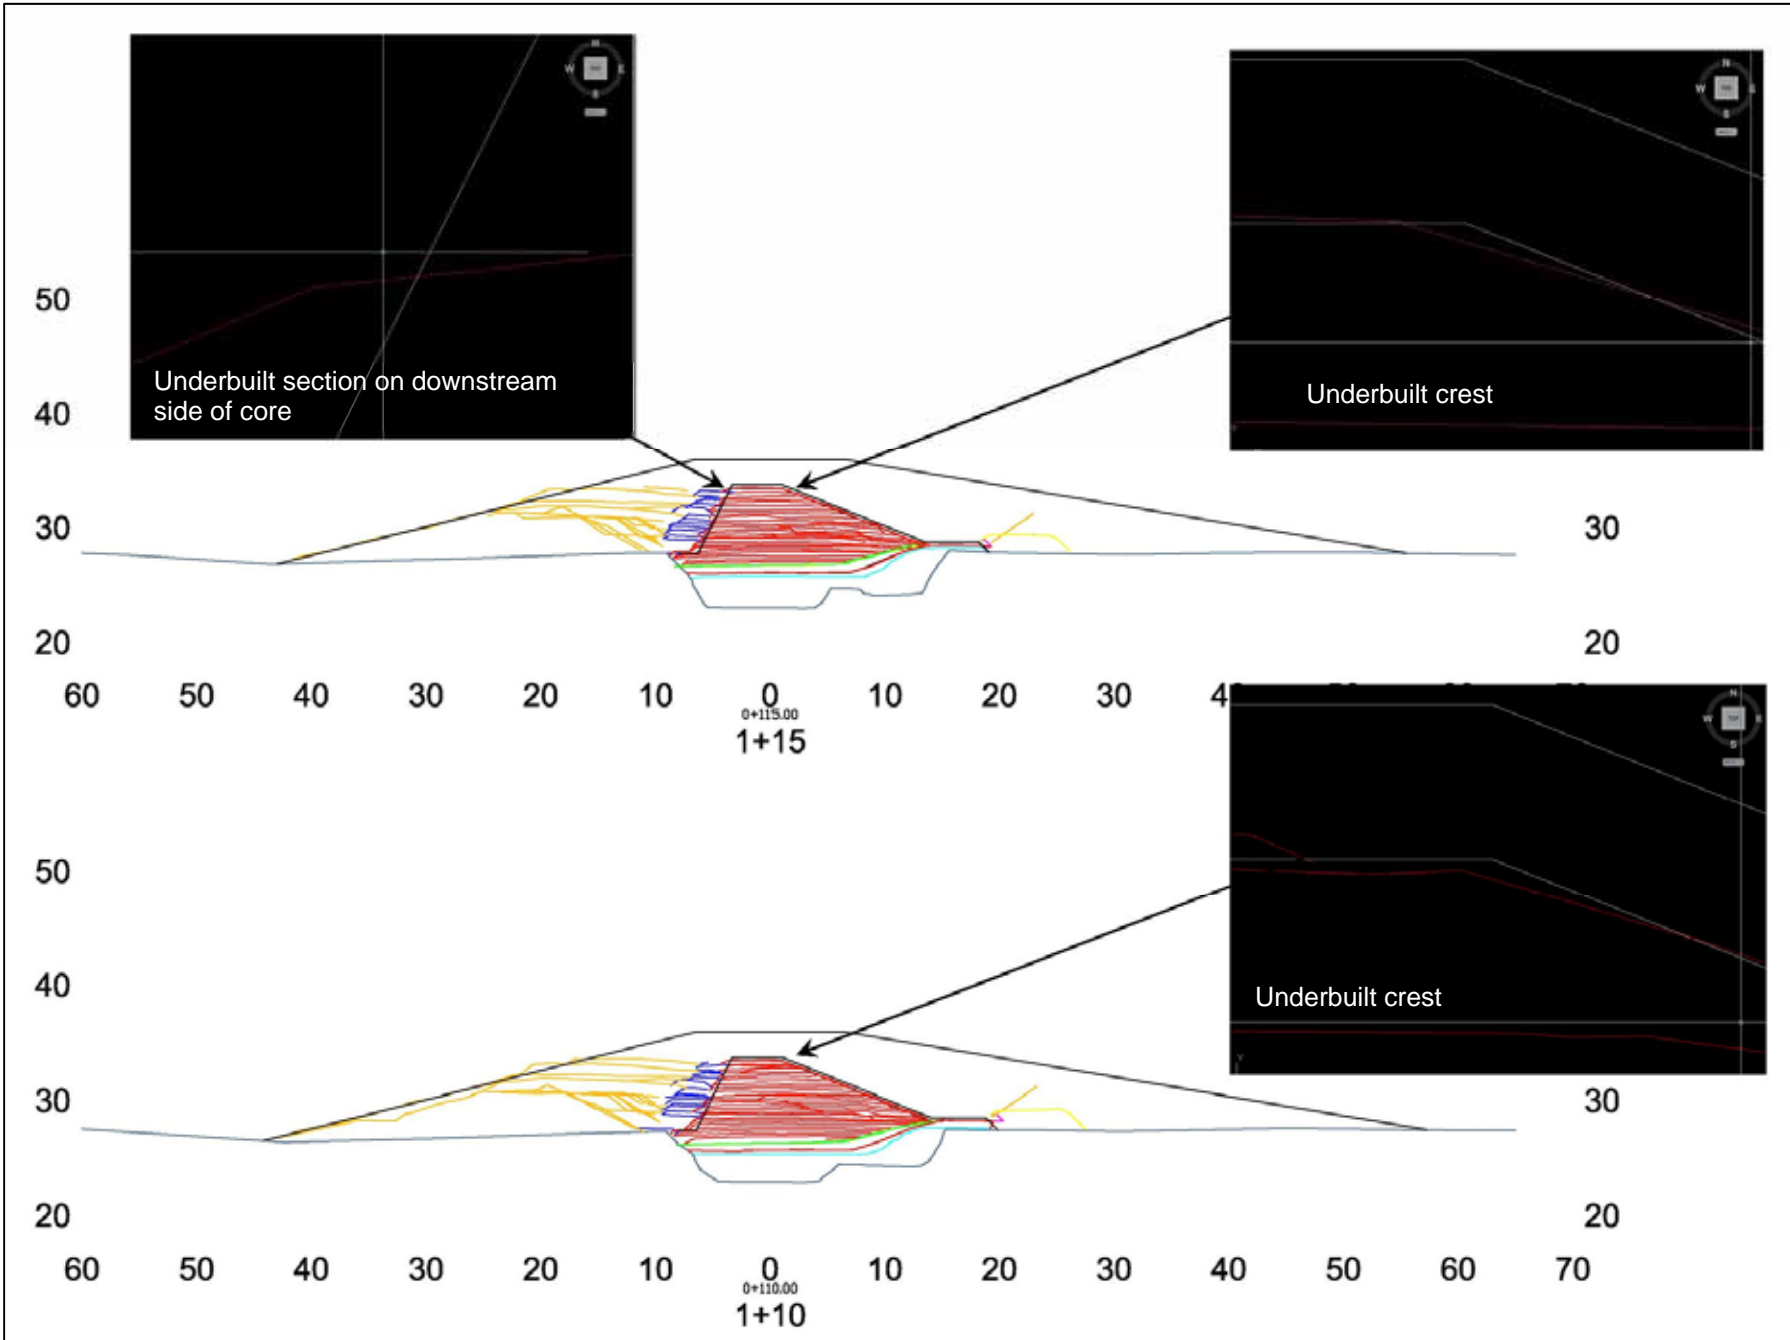

Figure 4: Location of IFC culvert alignment in relation to the Overburden dump access roads (light green lines).
- See Figure 4 for additional notes / details.